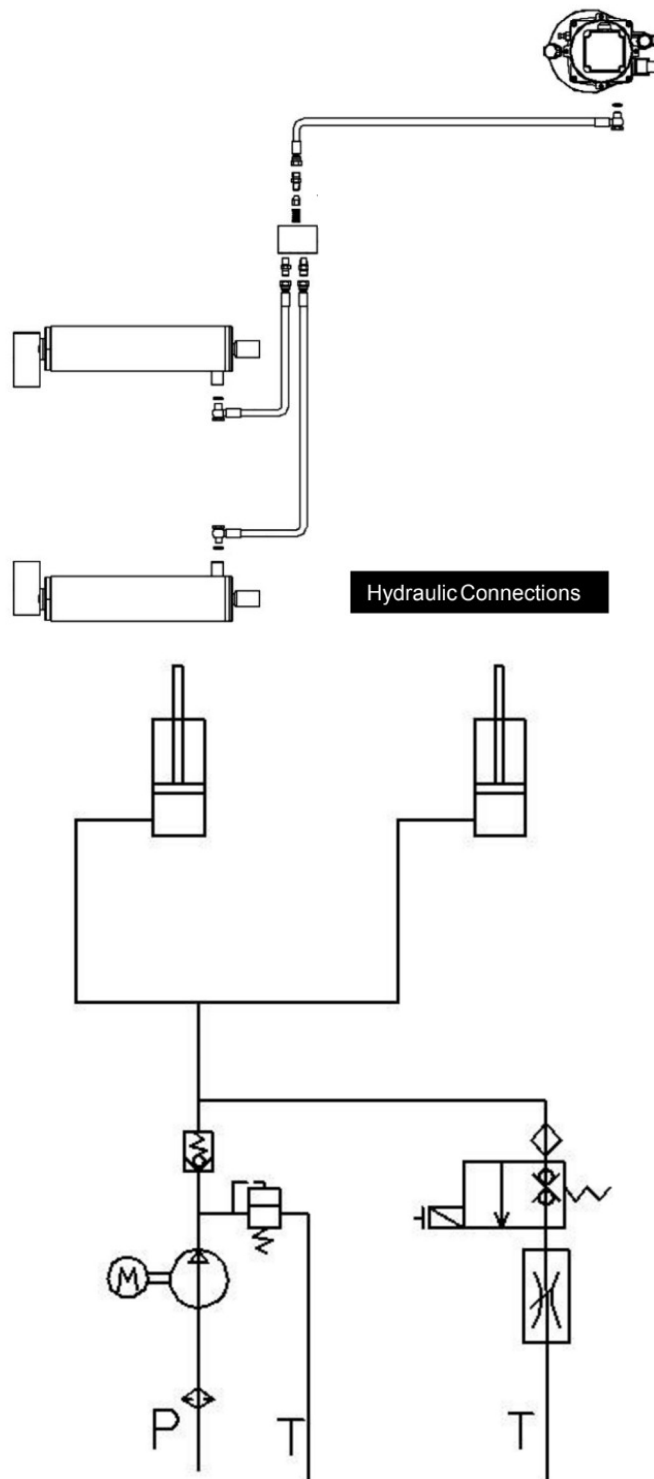

Figure 5
- As shown in above figure 5, when the UP button is pressed, the pump motor is started, driving the oil pump, sucking the hydraulic oil from the oil tank into the two Master cylinders, forcing the piston rod to move. At this time, the safety valve is closed.